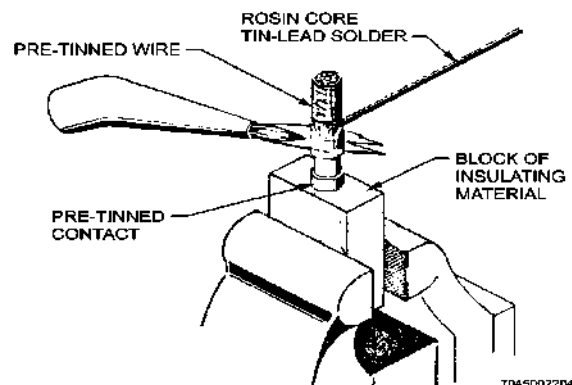

Figure 16-15 Torch Soldering Thermocouple Wire to MS Connector Contact
- d. Insert properly pre-tinned wire into contact and solder using resistance pliers or torch. Use only rosin core solder for this operation. (See Figure 16-15.)